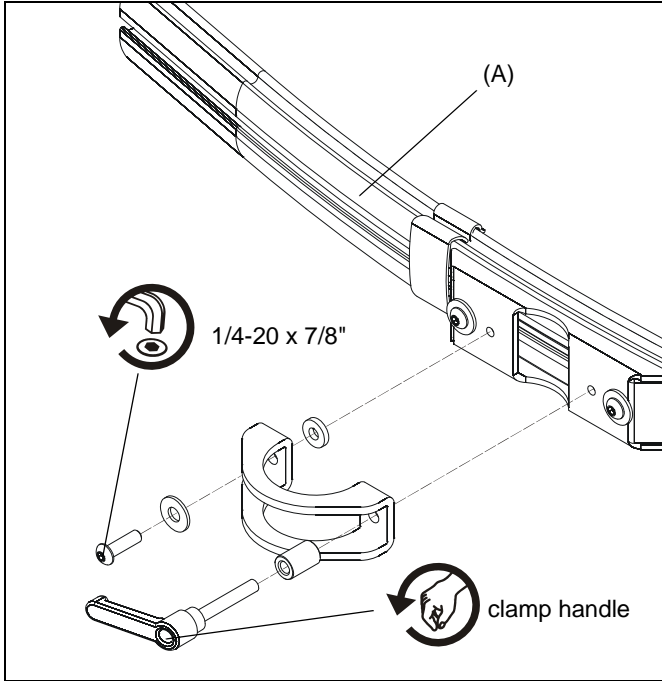

Figure 1
1. Remove pole clamp from 54" array extrusion by unscrewing clamp handle and 1/4-20 x 7/8" button head cap screw. Set removed parts aside for reuse. (See Figure 1)